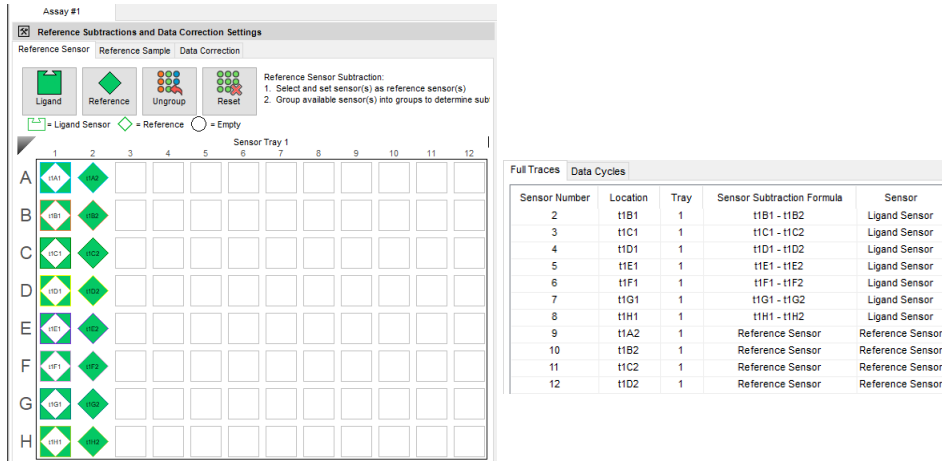

Figure 4-22: Group Reference In Row Tray View and Full Traces Table Subtraction Formula
- **Subtract Reference in Row** - Groups reference and ligand biosensors in a row. For example, if your ligand biosensors are in column 1 and reference biosensors are in column 2 this subtracts A2 from A1, B2 from B1, and so on (Figure 4-22).